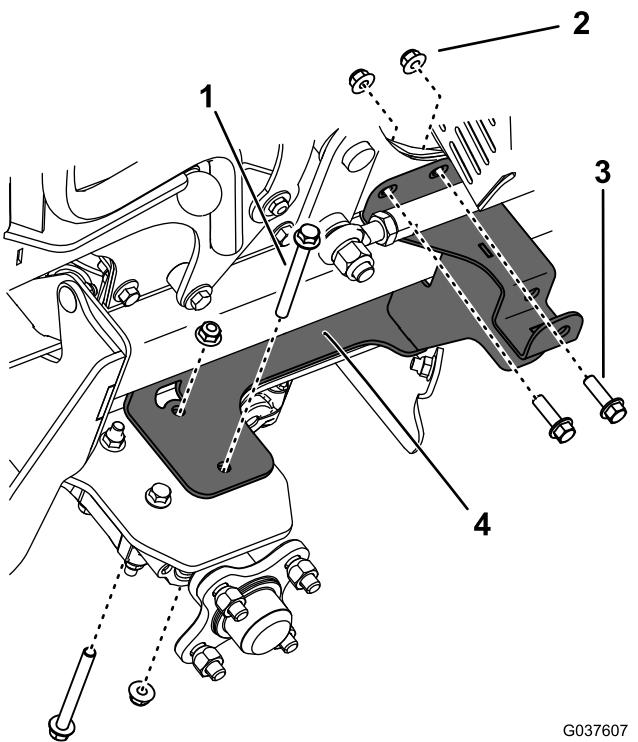

Figure 11
- 9. Remove the front 2 bolts and 2 nuts from the right mount bracket and the front 2 bolts and 2 nuts from the right tower panel (Figure 11).
10. Use the bolts and nuts you removed in step 9 to secure the right mount bracket and fan shroud to the frame (Figure 11). Torque the bolts to 37 to 45 N·m (27 to 33 ft-lb).